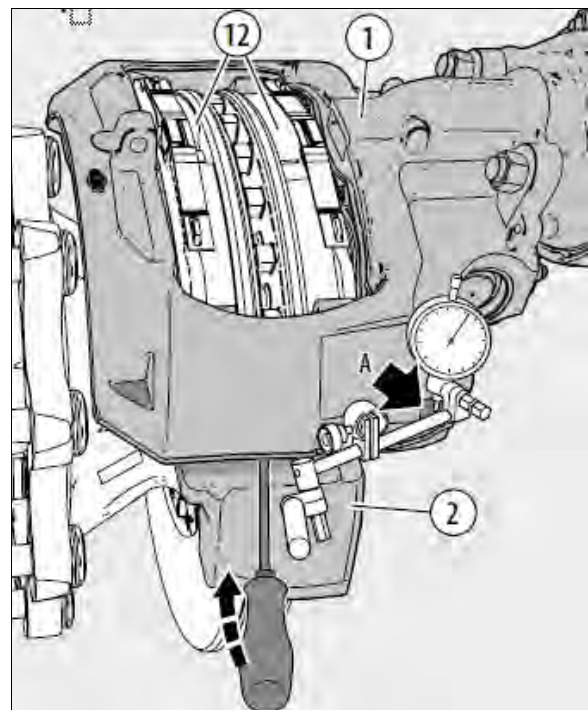

FIGURE 48: OBTAINING MAXIMUM VALUE OF BEARING CLEARANCE
3. Fasten a magnetic dial-gage holder to the carrier (2) on the floating bearing side of the caliper (1). Use the casting tag on the caliper (1) as the measuring point - see arrows A (see Figure 48).
5. Place a suitable tool (e.g. screwdriver with at least 200 mm in length) in a central position between carrier (2) and caliper (1) and lever them in opposite directions (using normal hand-force).